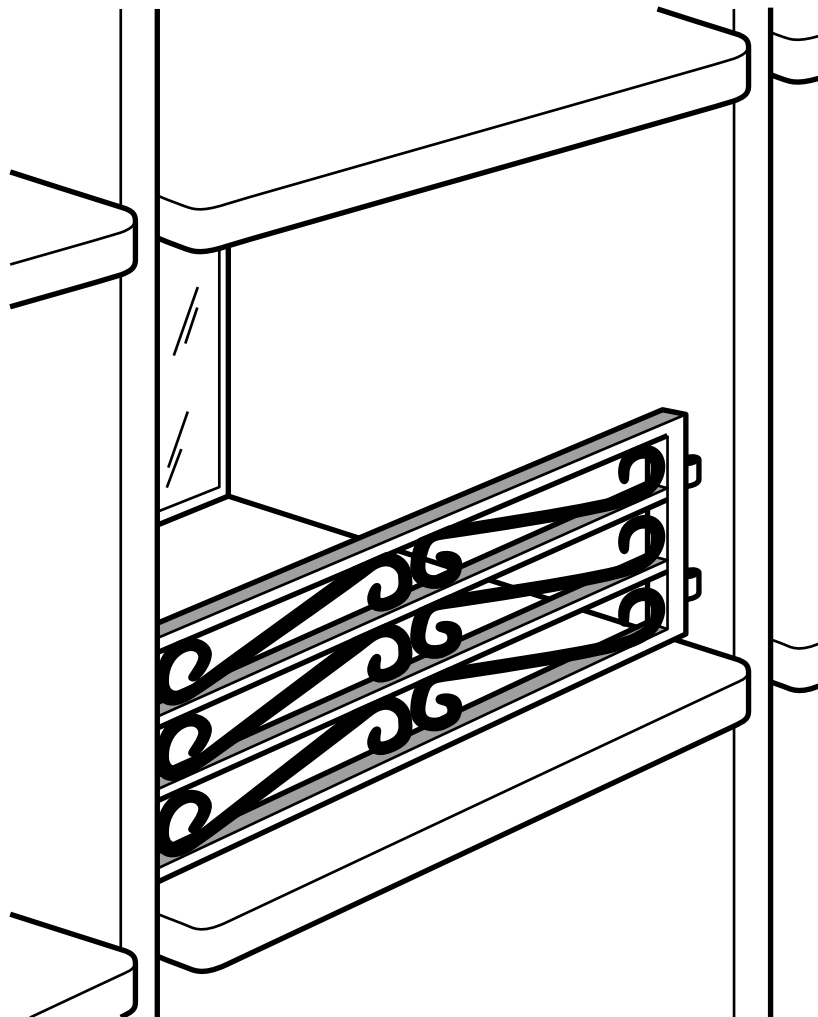

Fig. 2
Fig. 2 shows a decorative metal screen on a hotel balcony.
(a) Give FOUR design requirements for the decorative screen shown in Fig. 2. Justify each requirement.
- (b) Describe TWO examples where ergonomics has influenced the design of the decorative metal screen on a hotel balcony shown in Fig. 2. Use sketches and/or notes where appropriate.**